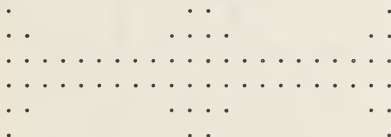

Figure 2 - 1
If you examine the panel, you will see two patterns of holes. One pattern (see Figure 2 - 1) consists of 68 holes arranged in several rows through the middle of the panel from end to end.
In this set of holes, all the hardware of a Tyniac machine is mounted except the "multiple switches", which will be explained in a moment. The second pattern consists of four rosettes of 65 holes in a circular arrangement (see Figure 2 - 2). These are the four "bases" of the multiple switches.
10. Multiple Switches. The remaining material provided in the kit consists of 4 round pieces of masonite, each containing 65 holes in the same circular arrangement (see Figure 2 - 2), and the hardware for assembling them into multiple switches, switches which are able to switch many circuits at the same time. Each of the circular pieces of masonite is about $4 \frac{3}{8}$ inches in diameter, is illustrated in Figure 2 - 2, and is called a multiple switch top, or switch disc, or switch dial, or simply a disc.